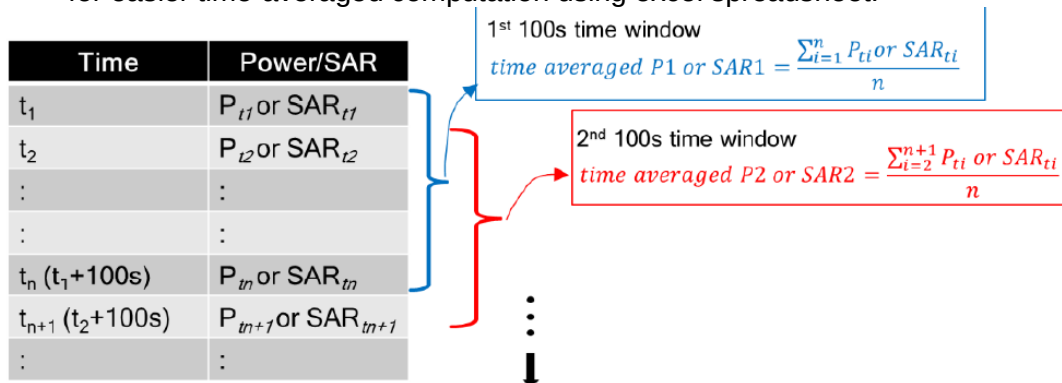

Figure 3-1 100s running average illustration
2. Set Reserve_power_margin to actual (intended) value (3dB for this EUT based on Part 1 report) and reset power on EUT to enable Smart Transmit, establish radio link in desired radio configuration, with callbox requesting the EUT's Tx power to be at pre-defined test sequence 1, measure and record Tx power versus time, and then convert the conducted Tx power into 1gSAR or 10gSAR value (see Eq. (1a)) using measured P_{limit} from above Step 1. Perform running time average to determine time-averaged power and 1gSAR or 10gSAR versus time as illustrated in Figure 3-1 where using 100-seconds time window as an example.